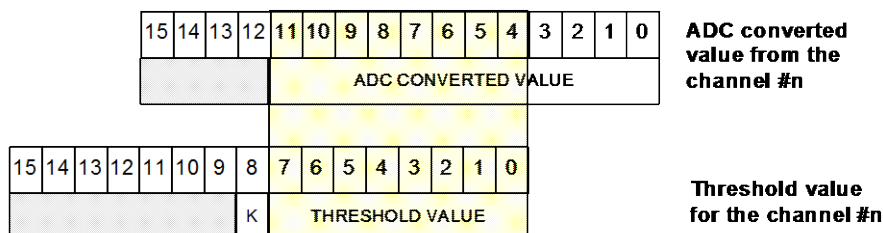

Fig. 2.4: Zero suppression (Bit 8 of Bit Set 2 Register = 0, default setting)
* This feature is available from firmware releases 5.1; for earlier firmware releases the thresholds can be programmed only in 16 ADC counts steps (as illustrated in Fig. 2.4).